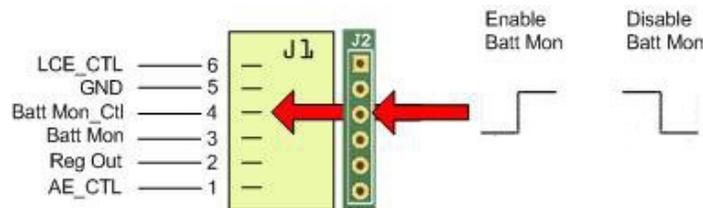

Figure 16: Pull Batt Mon_Ctl “High” to Enable Monitoring of Battery Voltage
- 2) Pull pin-4 (Batt Mon_Ctl) “High” on J1 or J2 as shown in Figure 16.
To disable external monitoring, pull pin-4 (Batt Mon_Ctl) “Low” on J1 or J2 (Figure 16), or position the BATT_ADC to the “Off” position.